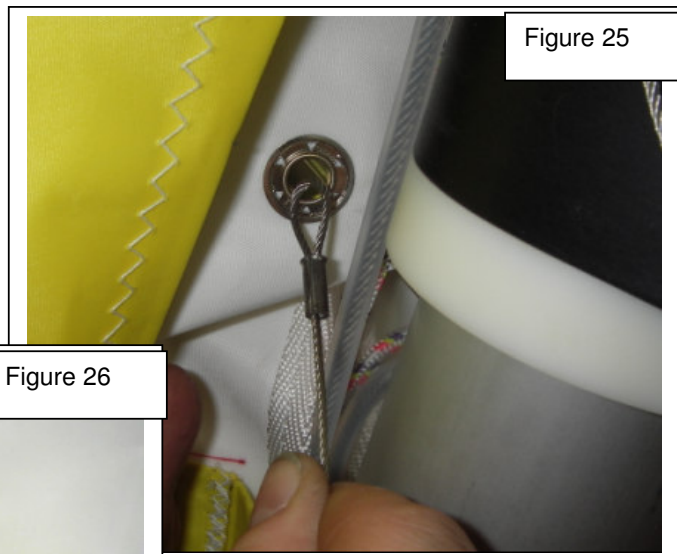

Figure 25
7. Feed trimmer cable back through eyelet hole in sail. See figure 25.